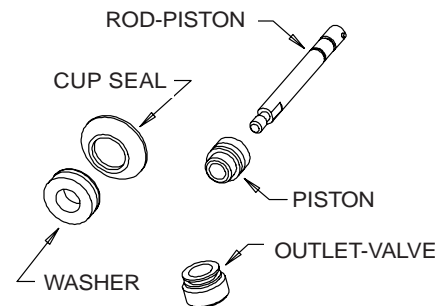

Figure 6-6
- b. The shaft cup seal, bushing, outlet-valve, piston O-ring grooves, and rod as shown in figure 6-6.